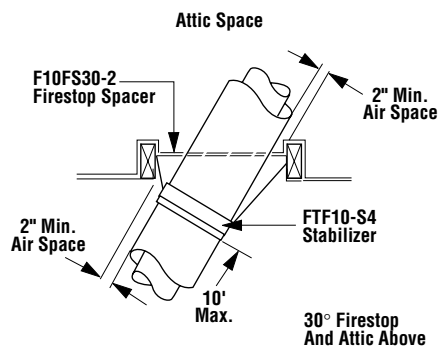
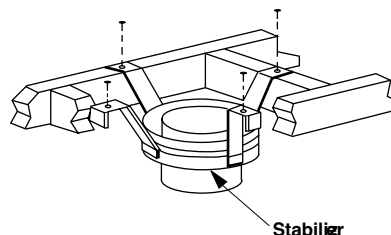

Figure 22
Figure 27
It may be necessary to assemble the chimney at 30° when passing through the floor or ceiling area. Use the F10FS30-2 firestop spacer as shown in Figures 22 and 23. Support the chimney at floor or ceiling penetration with a FTF10 stabilizer if distance of chimney below ceiling is 10' or more. Maintain 2" minimum air space to combustibles from chimney sections.
Install the Model FTF13-S4 stabilizer by fitting inner section down into respective section of proceeding flue pipe and locking outer stabilizer section into place over the outer chimney pipe. Position for proper clearance through framed opening and nail straps securely (under tension in "shear") into place on framing. Use 8d nails. Attach successive lengths of chimney pipe directly to stabilizer using same techniques as described in Step 4 (Figure 27).
Step 1. Use Offset Chart to determine amount of horizontal offset (A) and height (B) for various chimney section assemblies.
Step 3. Use Elevation Chart as job estimator only. Add necessary firestop spacers and stabilizers as required. Firestop spacers must be used as shown in *Figures 22 and 23* and stabilizers as shown in *Figure 27*.